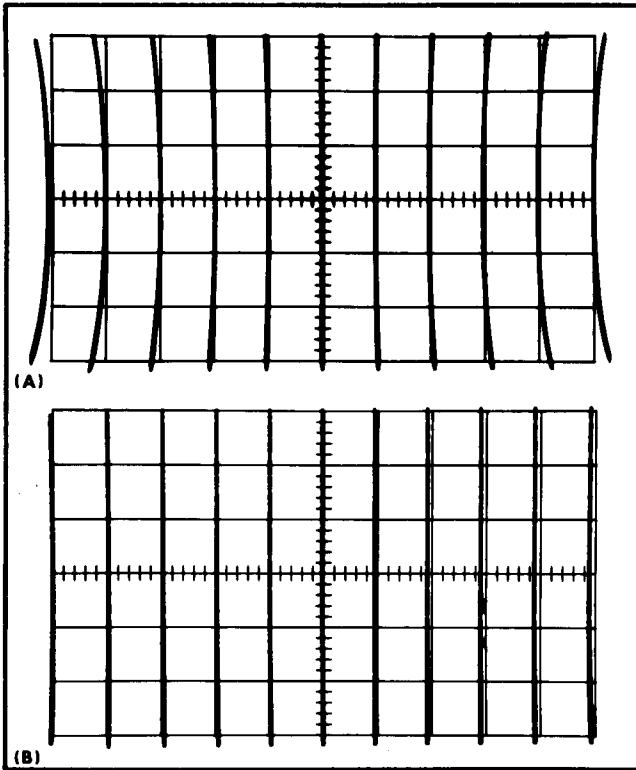

Fig. 5-1. (A) Typical CRT display showing incorrect geometry. (B) Typical CRT display showing correct geometry.
e. Check—Bowing and tilt of markers over entire display area, not to exceed 2.0 mm. See Fig. 5-1.